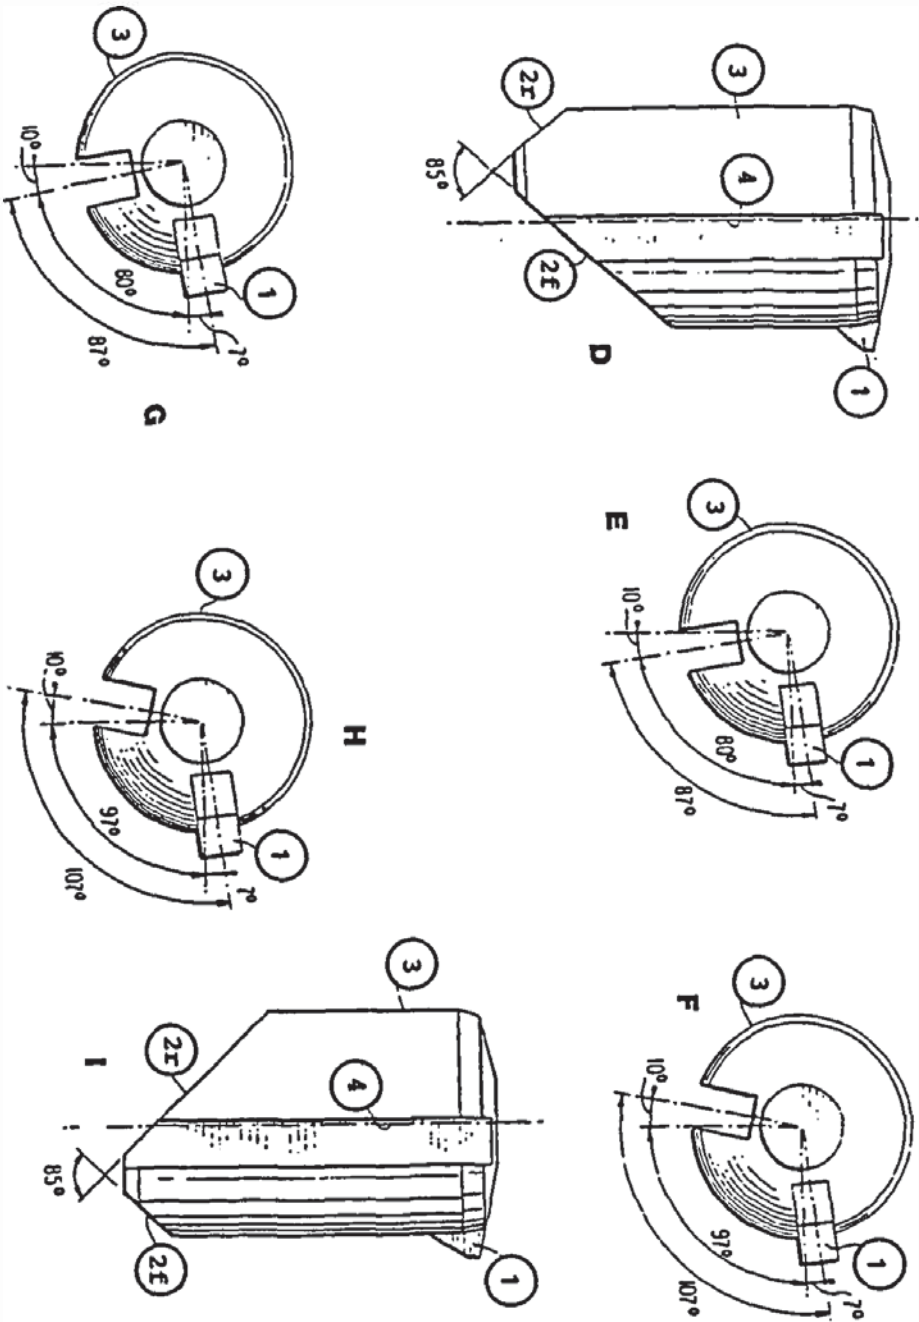

Figure 5B.
Now owned by the ASSA/Abloy Group, no single lock company has had such an impact on modern security. The rotating pin or "twisting tumbler" concept patented (#4,635,455) by inventor Roy N. Oliver for Medeco Security Locks was designed to increase the number of key changes, thus improving security. In the process, he also created a more pick-resistant lock, as each tumbler must be positioned exactly for its groove (or hole) to align with the lock's side-bar rails or posts. Moreover, the chiseled pointed pins can rotate either forward or in reverse by up to 20 degrees on each side, with either left- or right-handed pins. See Figure 5B to view the skewed cuts on the key control where these pins align their slots (Figure 5B, #4) with the side-bar in addition to the standard rising of the pins to a breaking shear line with the cylinder. The tang (Figure 5B, #1) on each pin rides a broached slot2 in the pin chamber of the plug and limits total rotation or spin of each tumbler in each direction (forward or reverse) by 20 degrees. The key (Figure 5A, item c) can be cut skewed by either 10 or 20 degrees in either direction or straight across perpendicular with the bit in any variation on the blank. Here, a key is shown with six cuts for a six-pin Medeco lock. As of this printing, this is the highest number of pins any Medeco may have.
- rear offset long chisel face (shown as item 3d in Figure 5A and item d in Figure 5B)
- rear offset short (item 3e)
- forward offset long (3b and item i in Figure 5B)